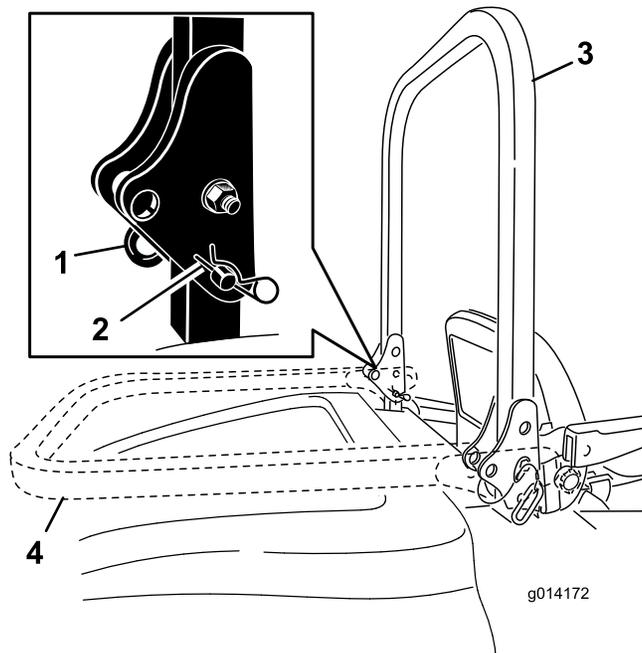

Figure 14
1. To lower the roll bar, remove the hairpin cotters, push the roll bar forward against the springs, and remove the 2 pins (Figure 14).
2. Lower the roll bar to the down position (Figure 14).
3. Install the 2 pins and secure them with the hairpin cotters (Figure 14).
4. To raise the roll bar, remove the hairpin cotter pins and remove the 2 pins (Figure 14).
5. Raise the roll bar to the upright position and install the 2 pins and secure them with the hairpin cotters (Figure 14).